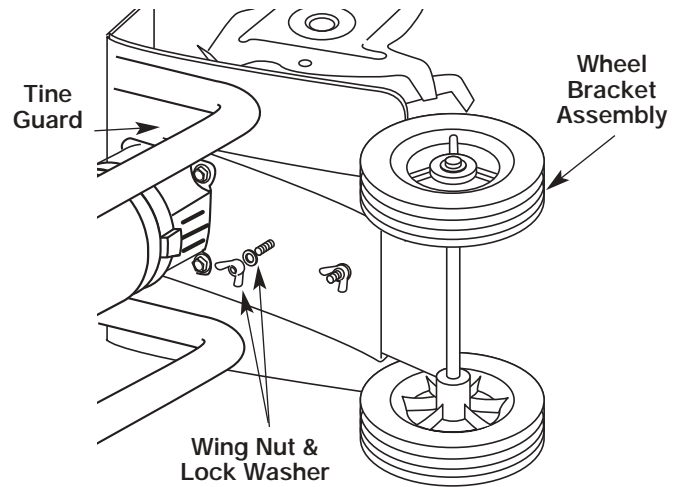

Fig. 3
1. With the unit on its side, place the wheel bracket assembly on the underside of the tine guard (Fig. 3).
3. On the **TOP** side of the tine guard, install a lock washer and a wing nut onto each of the bolts (Fig. 3).